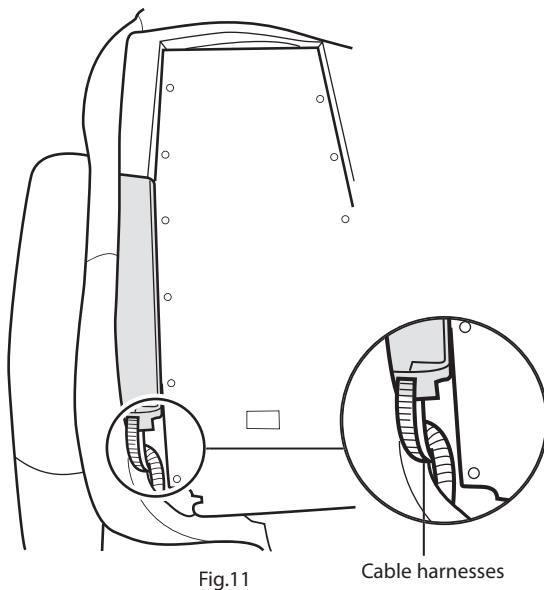

Fig.11
8. Place the PCB box between the massage mechanism and the left-hand side of the backrest (Fig.11).
9. Push the PCB connector junction box down into the backrest, then tuck the cable harnesses into the backrest (Fig.11).